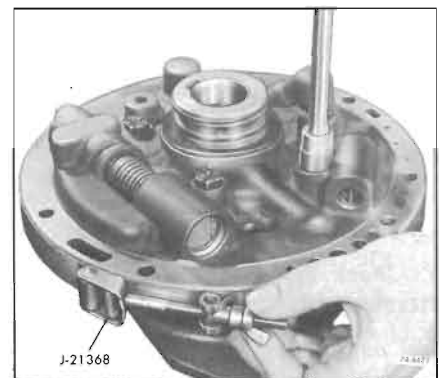

Figure 74-642
11. Place Pump Aligning Strap, J-21368, over pump body and cover, and tighten tool. See Figure 74-642.